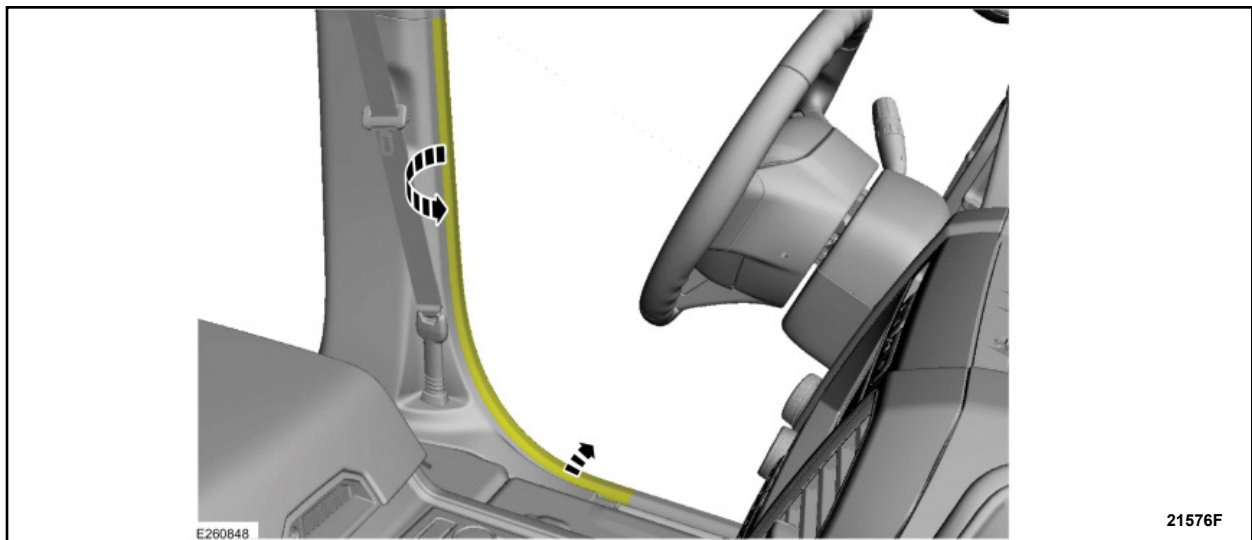

FIGURE 6
6. Position the front door weatherstrip aside. See Figure 6.